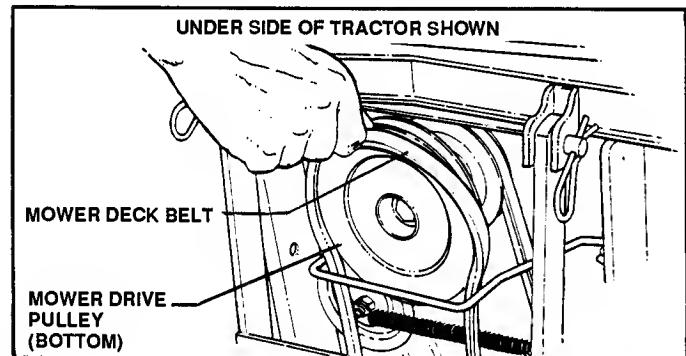

FIGURE 30
- Remove MOWER DECK BELT from bottom pulley of engine. See Figure 30.